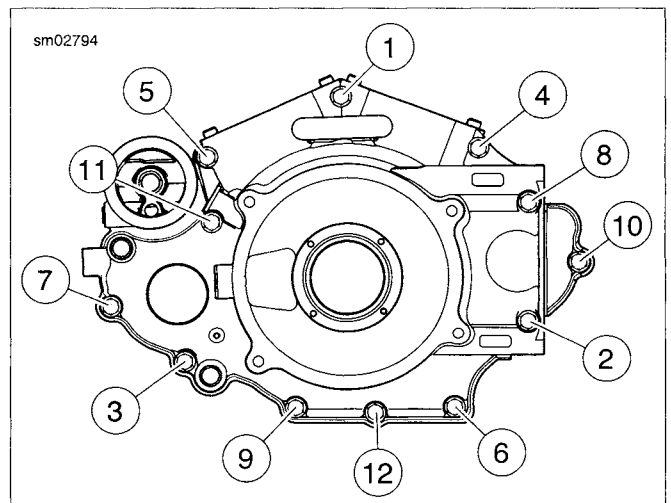

Figure 3-72. Tighten in Sequence Shown
10. See Figure 3-72. Start the twelve crankcase bolts and tighten in the following sequence.